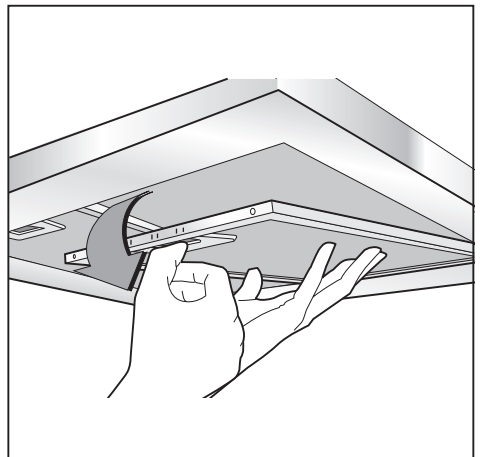

Fig.5
- If the hob is electric, gas, or induction, the minimum distance between the same and the lower part of the hood must be at least **65 cm**. If a connection tube composed of two parts is used, the upper part must be placed outside the lower part. Do not connect the cooker hood exhaust to the same conductor used to circulate hot air or for evacuating fumes from other appliances generated by other than an electrical source. Before proceeding with the assembly operations, remove the anti-grease filter(s) (Fig.5) so that the unit is easier to handle.